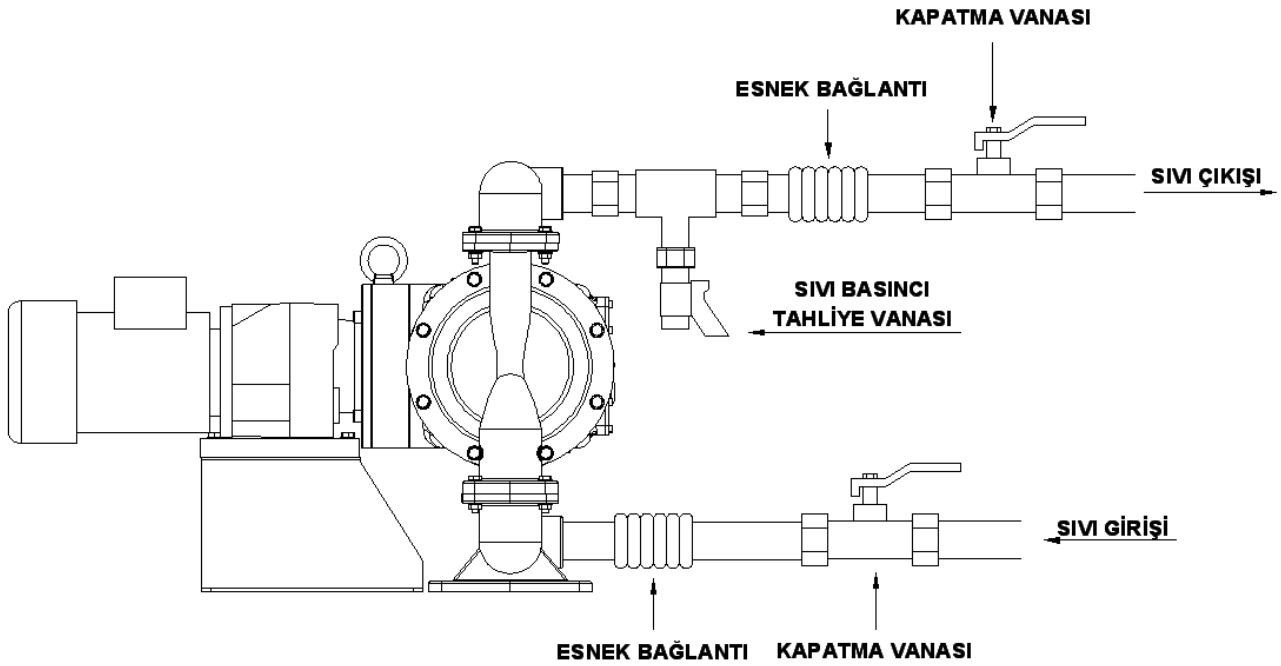

Figure 6- Typical pump installation
A typical connection scheme of diaphragm pump is shown at Figure 6. Refer to your RAN™ Pump distributor for detailed information.
- 3- Pump is not able to operate in a fluid outlet shut condition. Check the fluid pressure sensor in order not to exceed the maximum plate measurements. Figure 6